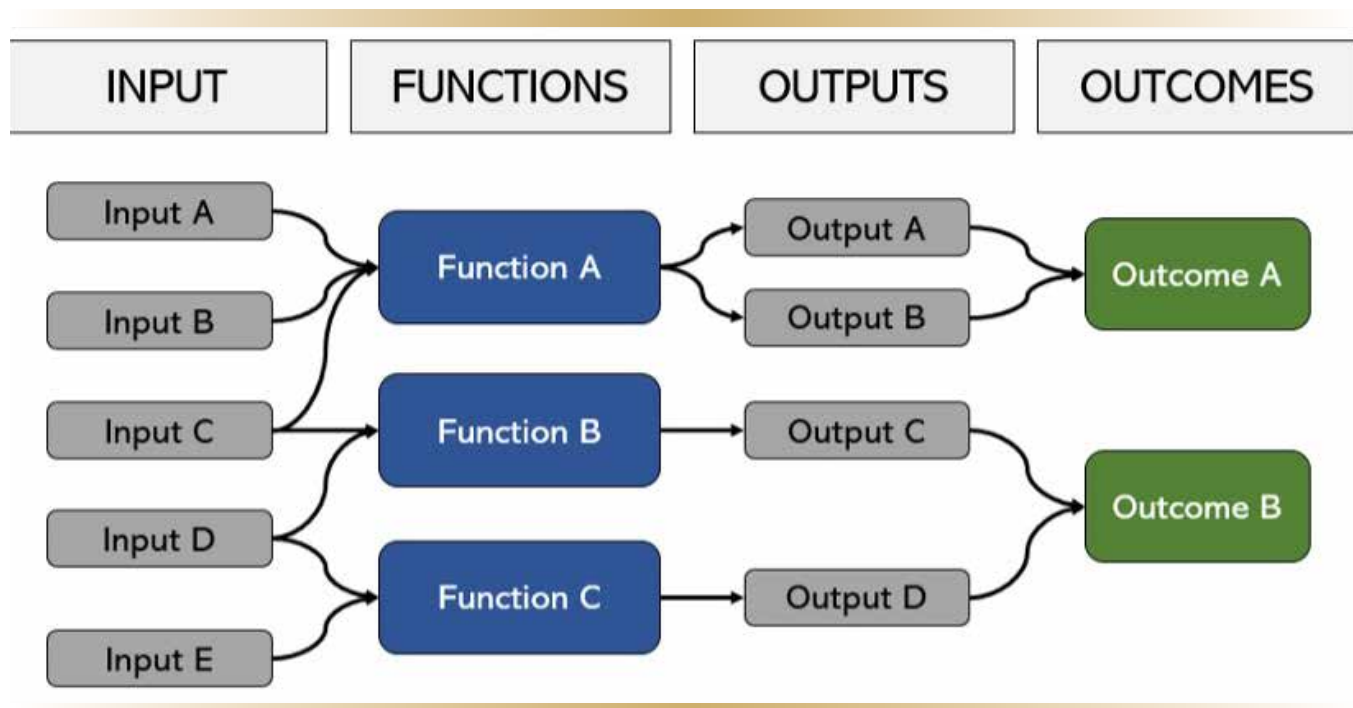
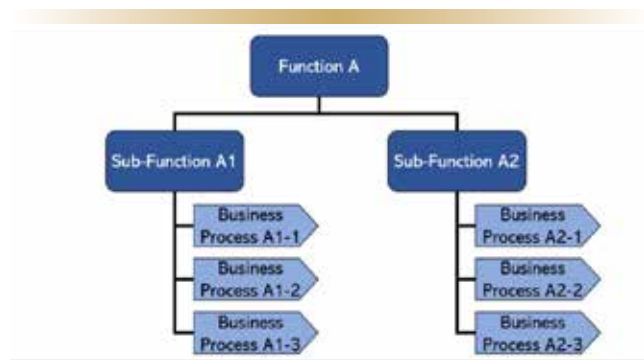
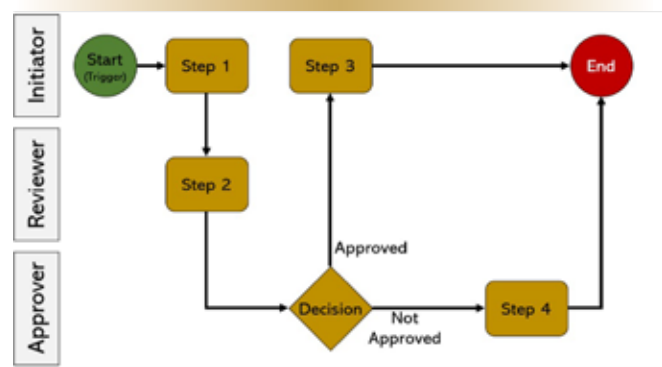

Figure 2. Generic Example of Strategic View 1.
Figure 3. Generic Example of Operational View 5a.
Figure 4. Generic Example of Operational View 5b.
**Strategic View 1 – Business Strategy and Motivation (Figure 2):** Also referred to as the "logic model," this view identifies and links inputs with key business functions, outputs, and desired outcomes (the "why"). Ultimately, the higher-level outcomes of a program should be linked to one of the Program Segments of the Departmental Result Framework, established by the Director Departmental Delivery, Results and Reporting within the VCDS group.
### Operational View 5a – Functional Model (Figure 3):
**Operational View 5b – Operational Process Model (Figure 4):** This is a key component describing the "how" in achieving the functions described in the Functional Model. Note that the "how" does not have to be at the procedural, "button-ology" level. For the purpose of business architecture, this view should focus on the process itself (who does what and when) rather than the tactical detailed procedure to accomplish it, as this last part is highly dependent on the digital solution enabling it.
Each business process (represented in Figure 4) should be linked to one of the business functions in Figure 3. In turn, the business functions should all have key inputs and outputs leading to one of the strategic outcomes, as represented in Figure 2.